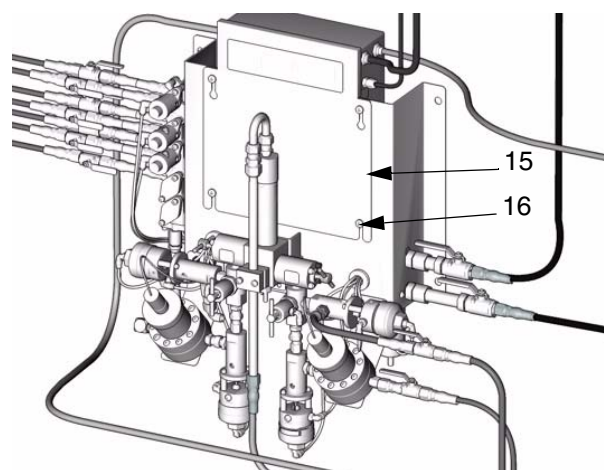

FIG. 13
4. Loosen the 4 screws (16), then remove the Smart Fluid Panel cover (15). FIG. 13.